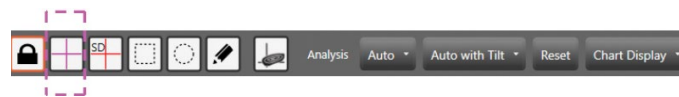

Fig. 6. Manual thresholding tool.
1. Navigate to the 2D Amplitude tab and select all of the positive control wells. Manually threshold these wells using the pink manual thresholding tool on the 2D Amplitude tab (see Figure 6).